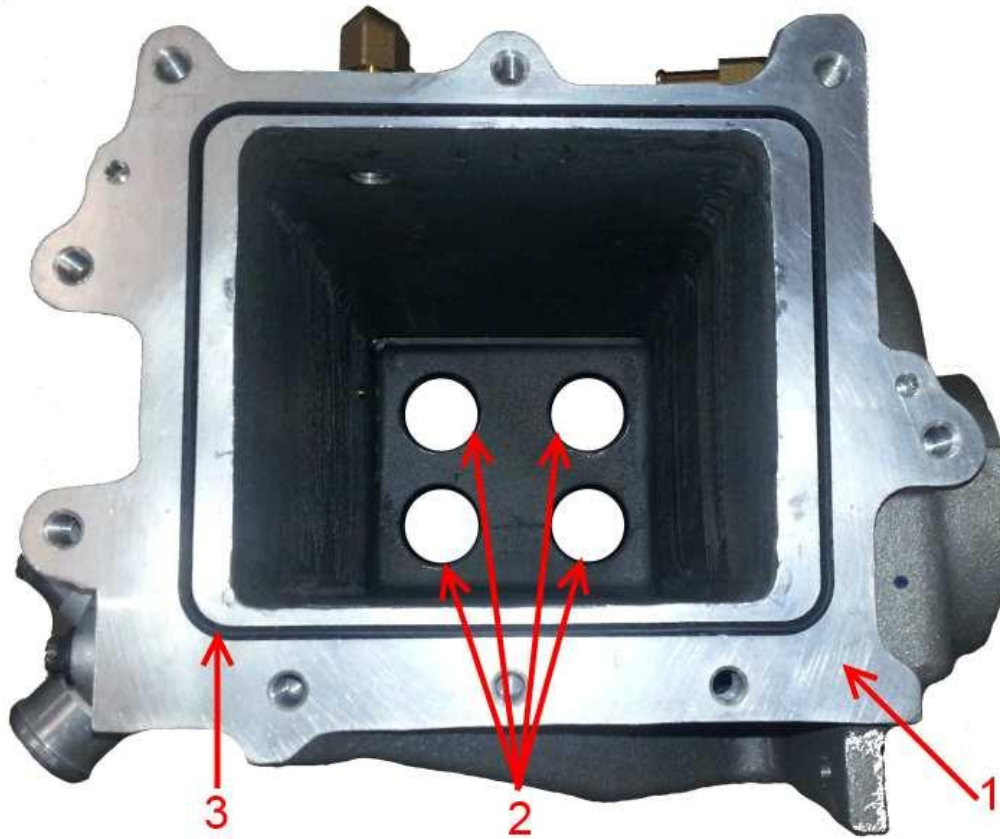

**Figure 11: Low Temp EGR Core Extractor**
25. Back out the bolt (**Figure 11**, Item 1) until the core pulls loose (typically 3/4" from the housing).